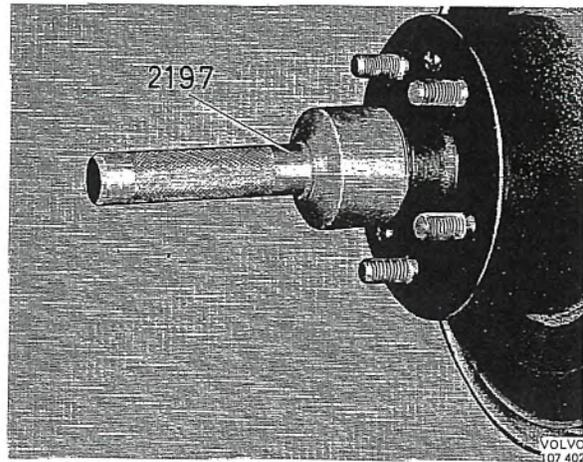
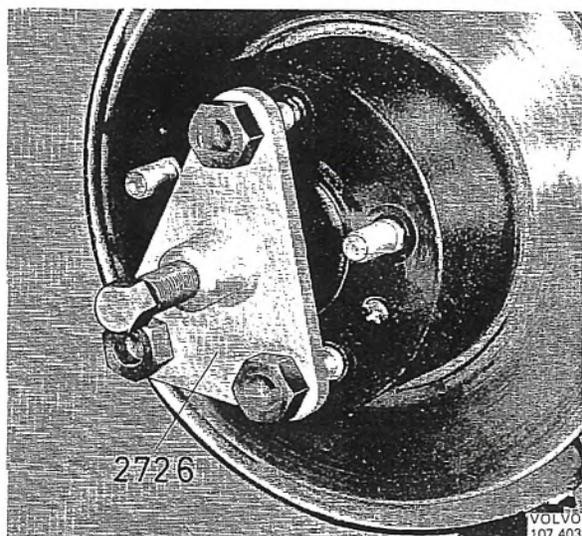
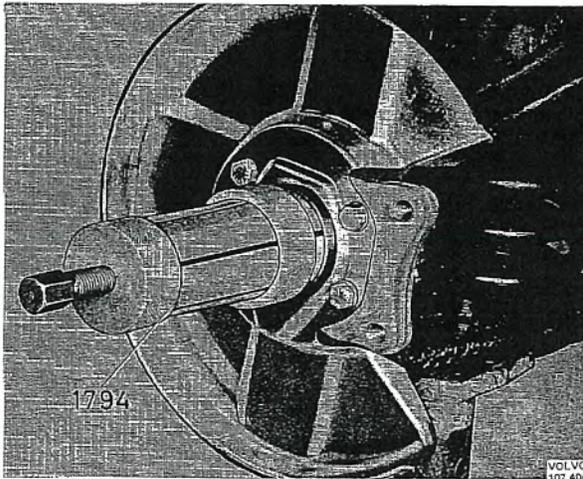

Fig. 6-18. Removing grease cap
Fig. 6-19. Removing hub
Fig. 6-20. Removing inner bearing
5. Remove the grease cap with 2197 according to Fig. 6-18. Remove the split pin and castle nut. Pull off the hub with puller 2726, see Fig. 6-19. If necessary, pull off the inner bearing from the steering knuckle with 1794 according to Fig. 6-20.